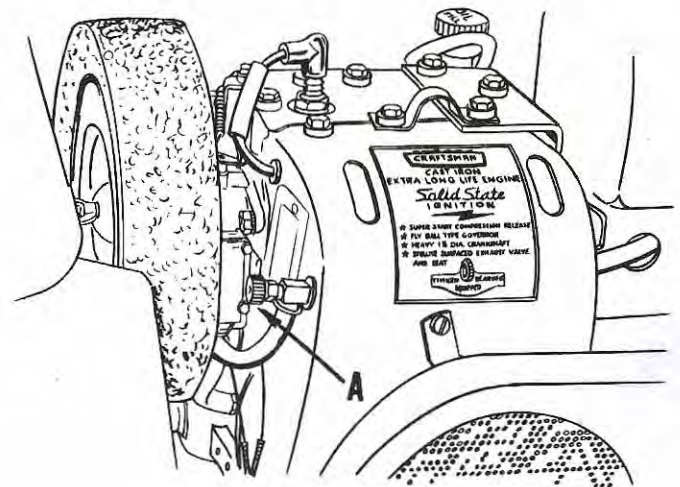

FIG. 9
1. Open gasoline shut-off valve (A, Fig. 9). Close gasoline shut-off valve after each days use.